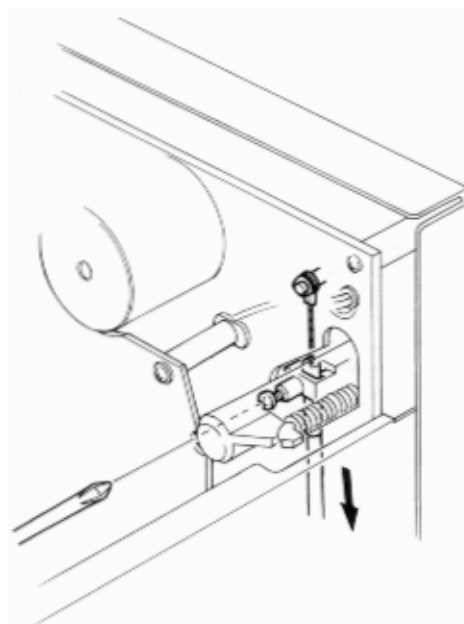

Fig. 5.19.2
(2) With pushing the Eject Arm by hand, loosen the screw and then pull the Eject Wire in the direction of the arrow until it stops as shown in Fig. 5.19.2.
(3) Tighten the screw, then apply a quantity of lock tight paint.